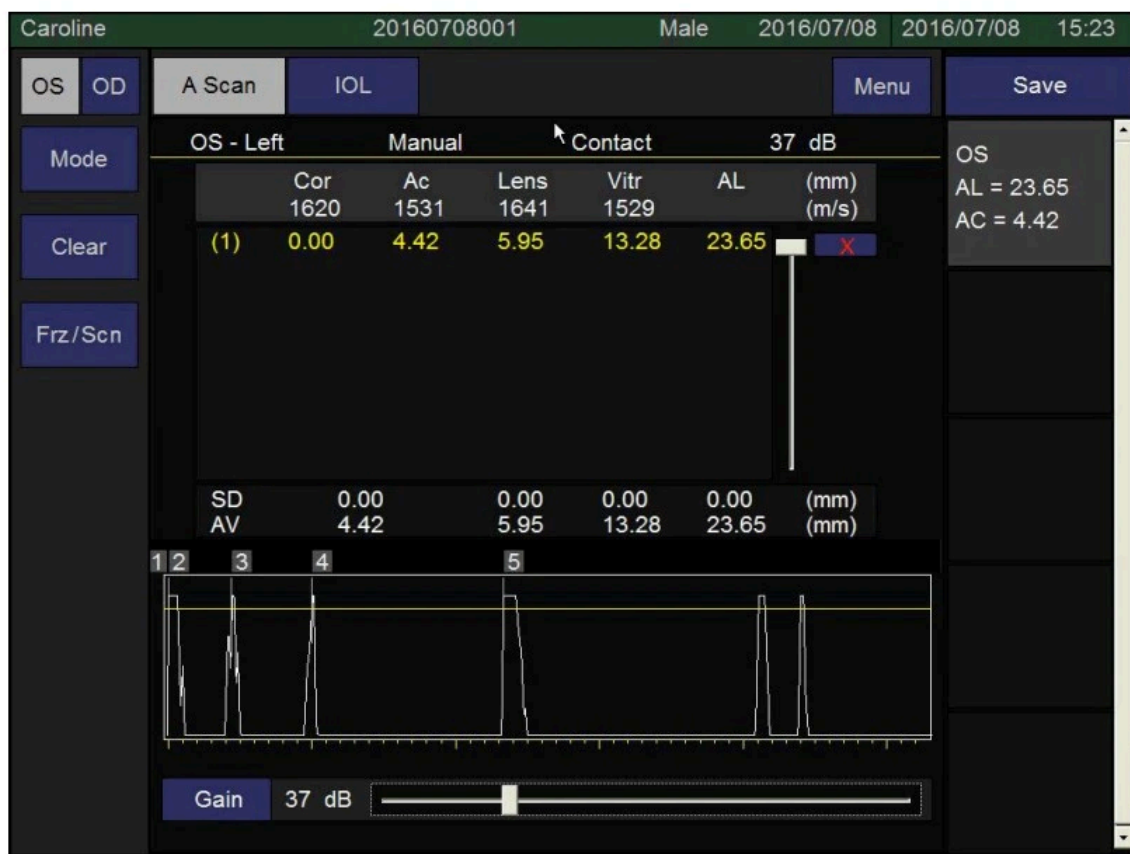

Figure 4-6-4 5-Point Marking Method under A-Scan Mode
The steps for manual measurement are similar to those for automatic measurement: Click **Frz/Scn** to activate the scan; adjust the gain for a better waveform; Click **Frz/Scn** again, so that the waveform can freeze up; put down markers on the waveform with the mouse (shown in Figure 4-6-4, for detailed steps, see §4.6.2 5-Point Marking Method under A-Scan Biometric Mode for Axial Length Measurement).
- b) Drag the 5 rectangular boxes (**1**, **2**, **3**, **4** and **5**) in the A-Scan waveform area, to their target positions, and the values of COR, AC, LENS, VITR and AL vary in real time (if the operator is unable to distinguish the front and rear edges of cornea, both points (**1** and **2**) can be marked at Point **1**); and the average value and S.D. can be re-calculated (shown in Figure 4-6-4).